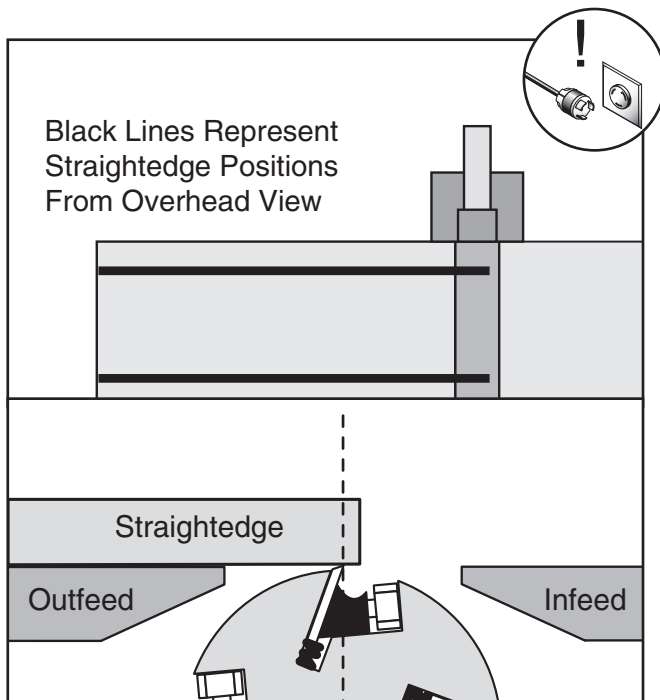

Figure 42. Checking knife height with a straightedge.
4. Using a straightedge, check the height of each knife at its highest point in relation to the outfeed table, in each of the straightedge positions, as shown in **Figure 42**.
Straightedge Method: A high quality straightedge is held flat against the outfeed table and the knife heights are set to the bottom of the straightedge, as shown in **Figure 42**. Because the knife projection height from the cutterhead is dependent on the outfeed table height, the outfeed table must be set as described in **Setting Outfeed Table Height on Page 39** for this method to work correctly.